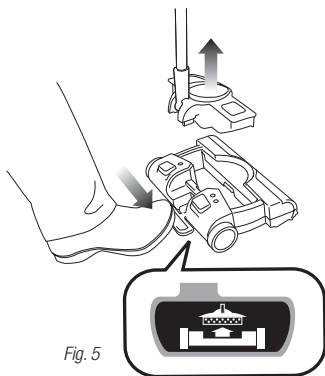

Fig. 5
- 6 When you're finished cleaning, empty the No-Touch dust cup. Simply press the dust cup release pedal and lift out the dust cup. (fig. 5)